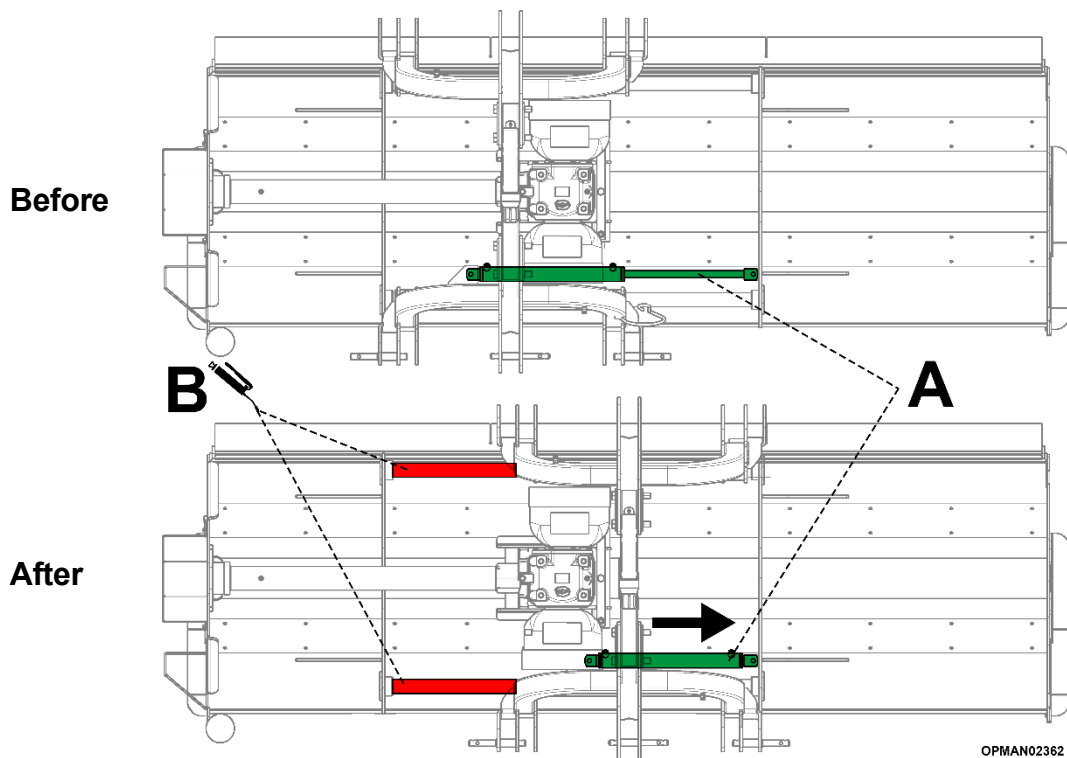

Figure 6
- With reference to Figure 6; retract the hydraulic sideshift ram (A) and liberally coat any exposed chrome plated hydraulic sideshift sliding tubes on the machine (B) in a suitable corrosion prevention product to protect the chrome plated components from corrosion.